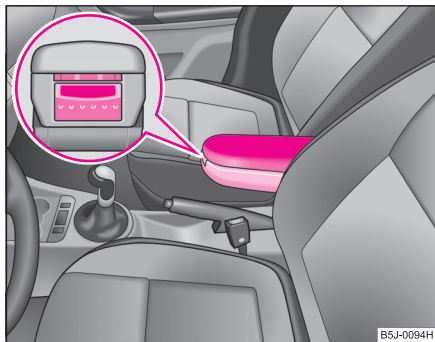

Fig. 75 Armrest: Storage compartment
- Press the lower button on the end face of the armrest ⇒ page 88, fig. 75 in order to fold the armrest. Fold the armrest forwards and release the button.